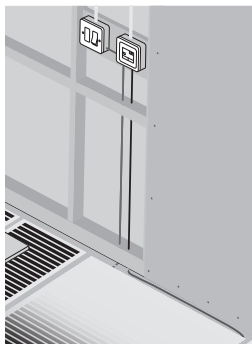

Fig.2. Prepare for thermostat
1. Prepare the installation for the thermostat. (fig.2)